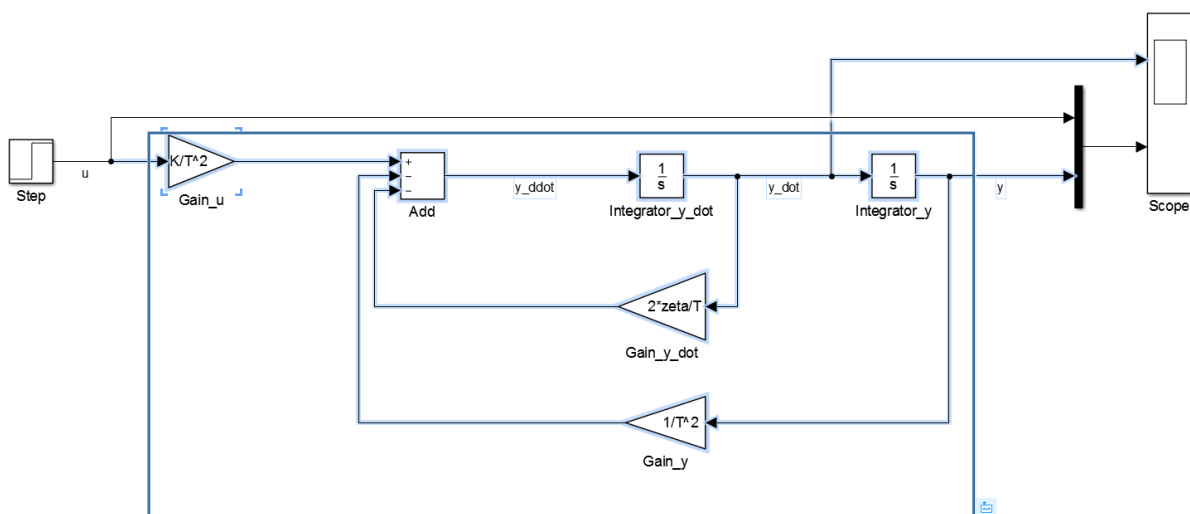

Figure 1-6: marked blocks to be converted into a subsystem
- (11) In order to separate the dynamics from inputs and visualization, we will now create a subsystem, that only contains the actual dynamics. To do so, mark all blocks, that are relevant to the dynamics, as can be seen in Figure 1-6. Be sure not to select the signal u going to the Mux-Block!